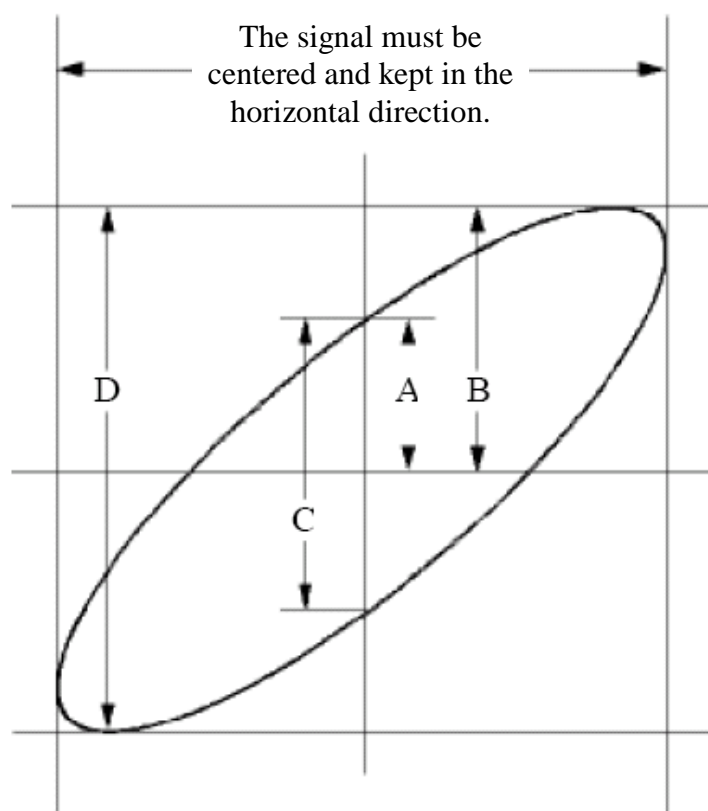

Figure 8-6 Lissajous Graph
- (1) Set the probe menu attenuation coefficient for **10X** and that of the switch in the probe for **10X** (see "*How to Set the Probe Attenuation Coefficient*" on P11).
- (2) Connect the probe of channel 1 to the input of the network and that of Channel 2 to the output of the network.
- (3) Push the CH1 and CH2 button to turn on CH1 and CH2.
- (4) Push the **Autoset** button, with the oscilloscope turning on the signals of the two channels and displaying them in the screen.
- (5) Push **CH1** button to select CH1, turn the lower knob, and then push **CH2** button to select CH2, turn the lower knob, making the amplitudes of two signals equal in the rough.
- (6) Click  to call up the menu panel. Click the **XY** softkey on panel to switch to the **ON** state. The oscilloscope will display the input and terminal characteristics of the network in the Lissajous graph form.
- (7) Turn the upper and lower knobs, optimizing the waveform.
- (8) With the elliptical oscillogram method adopted, observe and calculate the phase difference (see *Figure 8-6*).